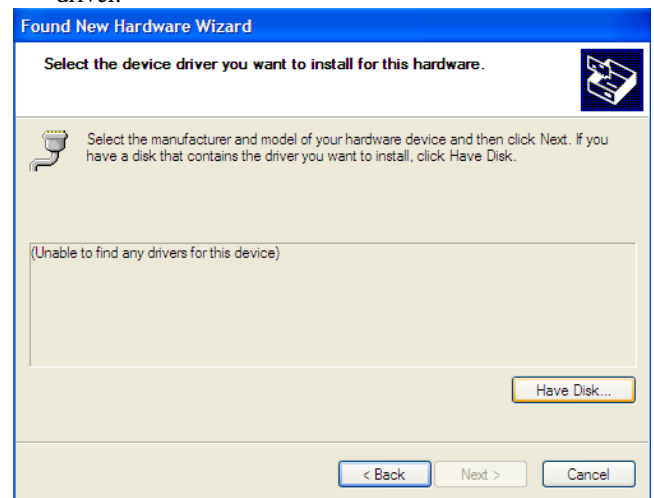

Figure 5. Select Hardware Driver
6. Click *Have Disk...* (See Figure 5) to select the device driver.